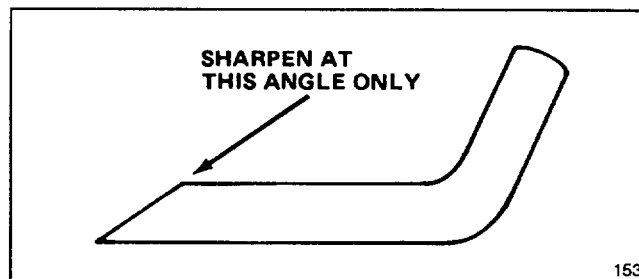

Figure 27
6. **SHARPENING BLADE**—Using a file, sharpen top side of blade and maintain original cutting angle (Fig. 27). The blade will remain balanced if same amount of material is removed from both cutting edges.